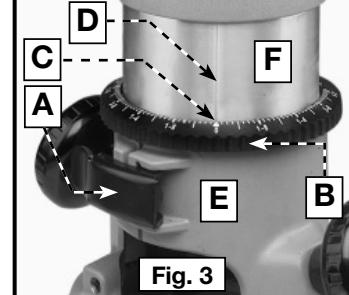

Fig. 3
1. Open the clamp (A) Fig. 3.
2. Hold the base (E) and turn the power unit (F) Fig. 3 counter-clockwise until the tip of the bit is above the bottom of the base.
4. Turn the power unit (F) Fig. 3 clockwise until the bit touches the work.
5. Close the clamp (A) Fig. 3.
6. Rotate the depth adjusting ring (B) Fig. 3 until the zero-line (C) is opposite the index line (D) on the housing.
7. Open the clamp (A) Fig. 3.
8. Tip the router so that the bit is clear of the work surface. Turn the power unit (F) Fig. 3 clockwise until the index line (D) on the motor housing reaches the desired depth indicated on the ring.
9. Close the clamp (A) Fig. 3.